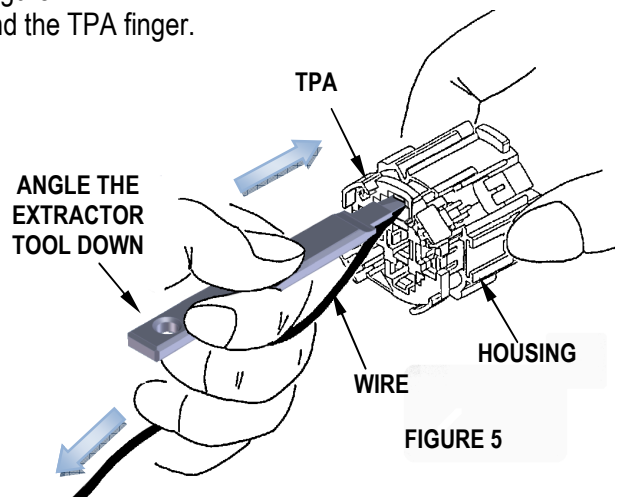

FIGURE 5
5. While holding the extractor tool in one hand, gently pull the terminal and the wire back through the housing slot and the TPA opening. With the other hand, gently pull the housing in the opposite direction as shown in figure 5.